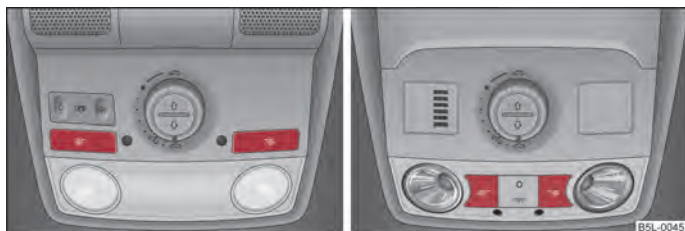

Fig. 32 Reading lights
- Press switch  ⇒ fig. 32 to switch the reading lights on/off.